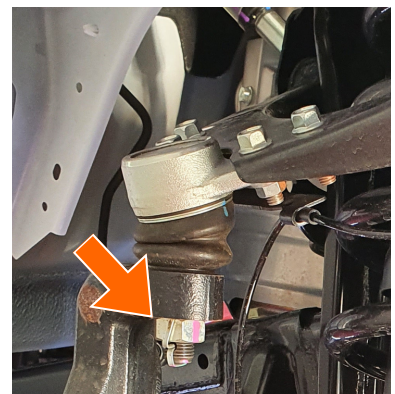

Fig. 3: Disconnect UCA.
4. Take off the nut connecting the upper control arm (UCA) to the upright (Fig. 3). Tap the ball joint stem with a hammer to break it free. Carefully detach the UCAs on both sides of the vehicle.